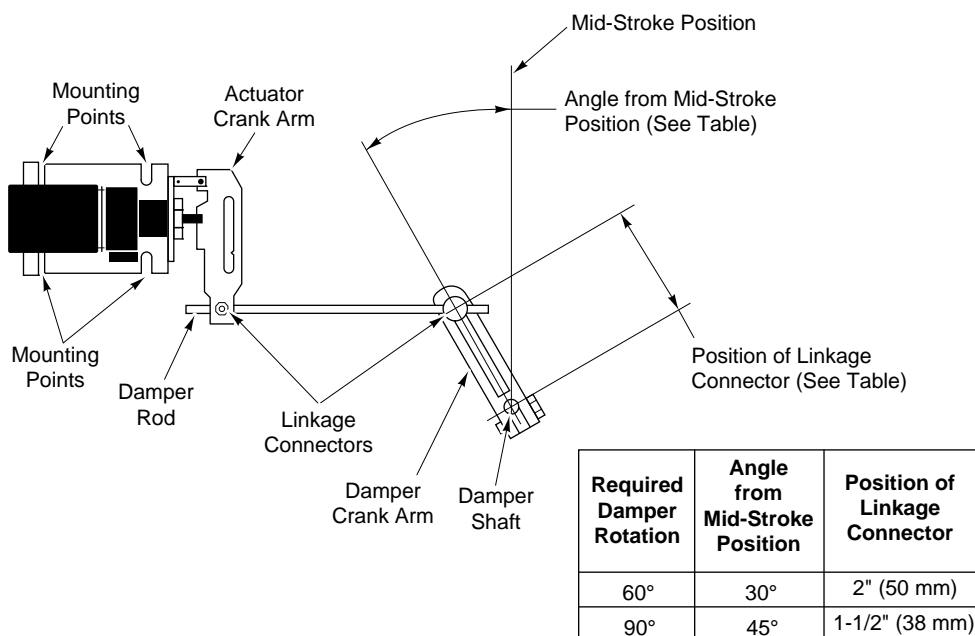

Figure-16 Recommended Actuator/Damper Mounting.
- c. If possible, select a mounting position such that, at mid-stroke, the actuator crank arm and the damper crank arm on the drive shaft are each at a 90° angle to the damper rod (refer to Figure-16 ). This is the recommended mounting position. It may be necessary to swivel the actuator linkage to arrive at this mounting location.
4. Mount a ball joint connector in the slot on the damper crank arm. To achieve 90° of damper rotation, position the connector 1-1/2" (38 mm) from the centerline of the shaft hole on the crank arm. For 60° of damper rotation, position the connector 2" (50 mm) from the shaft hole centerline. Typically, 60° to 70° of rotation (maximum is 90°) is sufficient to permit almost maximum air flow through the dampers. Refer to Figure-16 .
5. Rotate the damper to its open position. Install and secure the damper crank arm (with ball joint connector) to the damper shaft, positioning the crank arm as follows (refer to Figure-16 ):